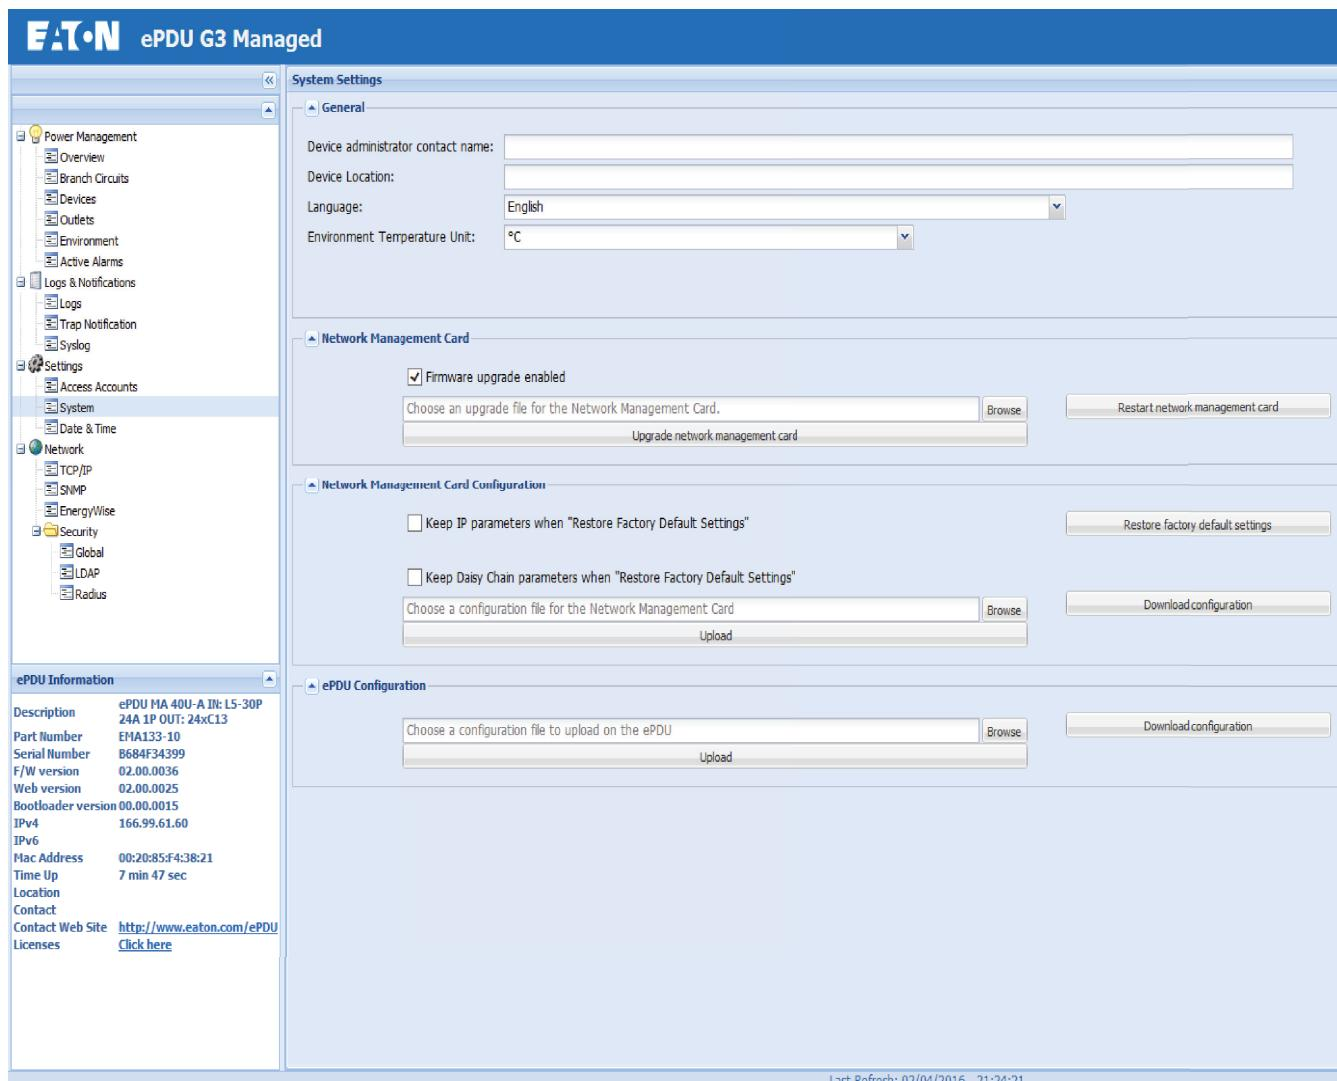

Figure 97. System Settings Page
7. From the menu bar, click Settings and then System. The System Settings page displays in the Main Application window (see Figure 97).